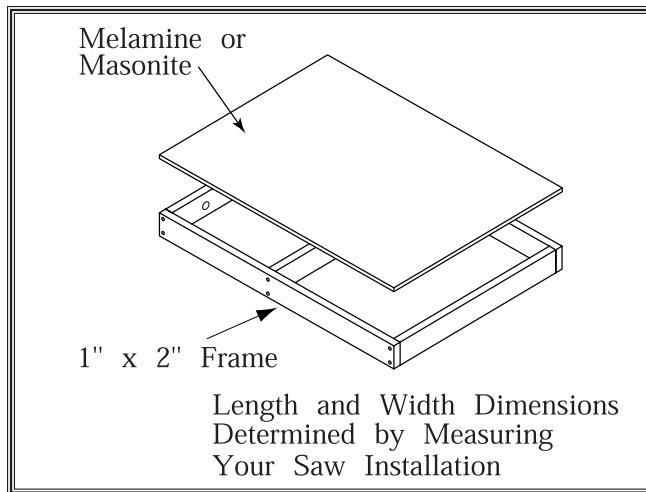

Figure 6. Extension table.
4. Position the legs as shown in **Figure 6** and insert two $1/4\text{-}20 \times 1\text{ }1/2"$ hex bolts with washers through each rail and loosely thread them into the legs.
1. Construct the extension table as shown in **Figure 6** using a frame with a separate top or a solid table can be made from countertop materials with a 3/4" to 1" thick particle board surfaced with a Melamine® or Formica® type of material.